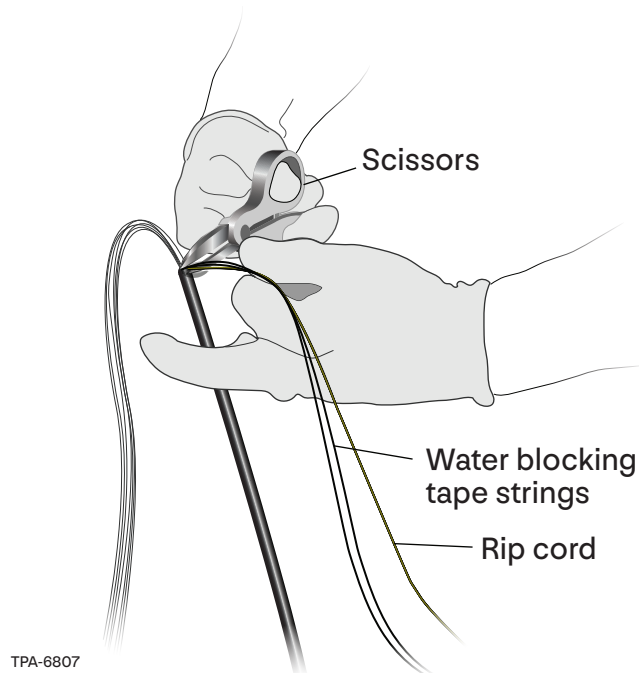

Figure 7
Step 6: Trim off rip cord and water blocking strings (Figure 7). Access is now complete.